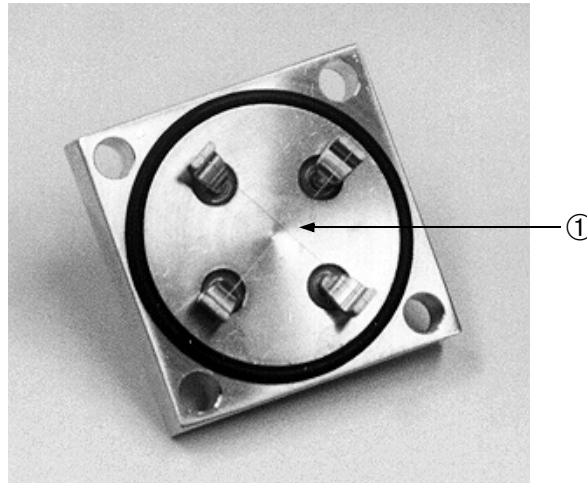

Figure 4-11 Button TC Wires (View with Header on)
4. Remove the Button TC carefully and place it sensing wire ① side up as shown in Figure 4-11, (contact pin side down) on a clean surface.